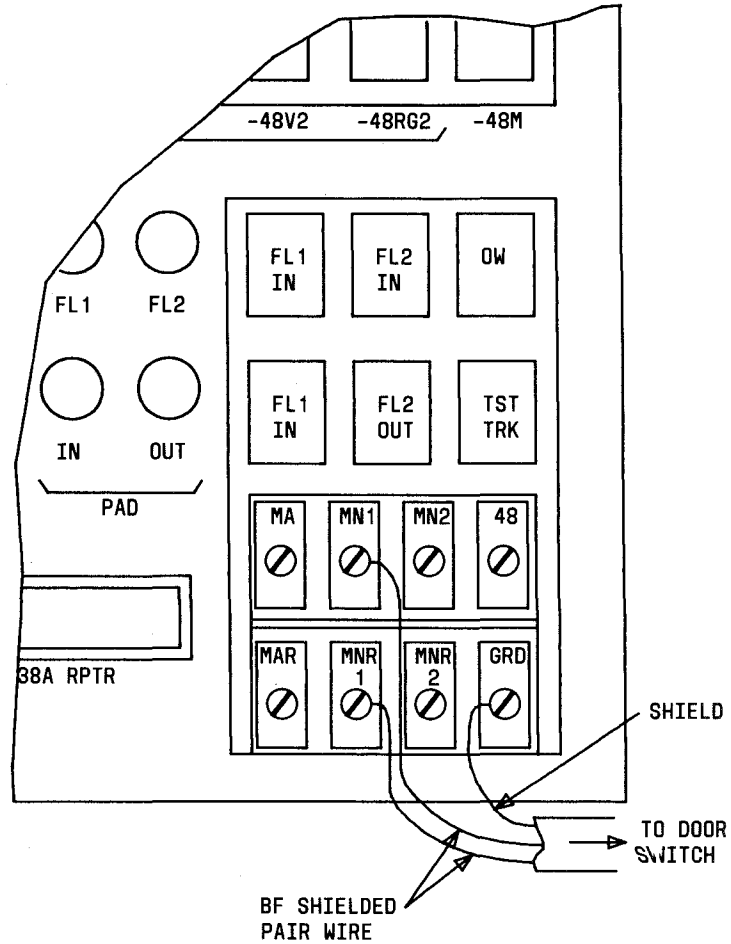

Fig. 8—Terminating Shielded Pair From Door Alarm Switch to 1A Power and Jack Panel
7.04 The alarm pair should be connected to the MN1 and MNR1 terminals of the 1A power and jack panel. The shield should terminate on the GND terminal of the 1A power and jack panel. See Fig. 8.